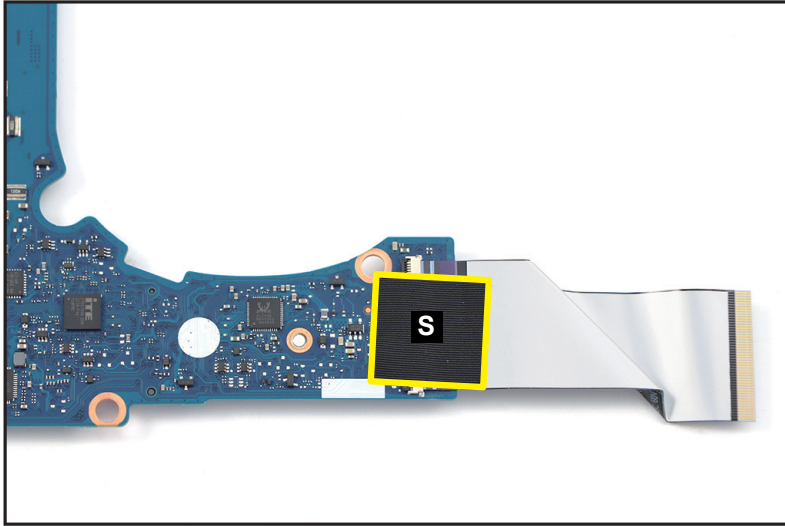

Figure 1-60. Mainboard Removal
17. Flip the mainboard. Then detach the tape (S) securing the LTE board FFC connection (Figure 1-60).